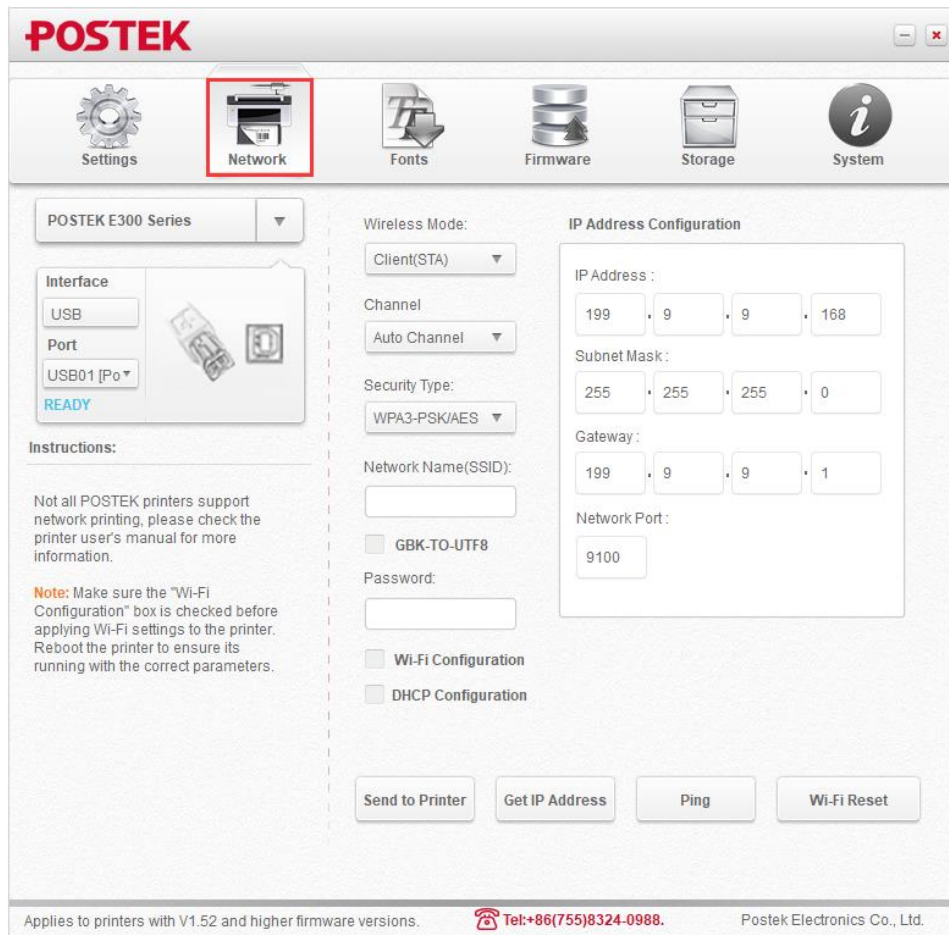

Figure 2-31 Open the Utility
3. Open the Utility software and click “Network”, as shown in Figure 2-31.